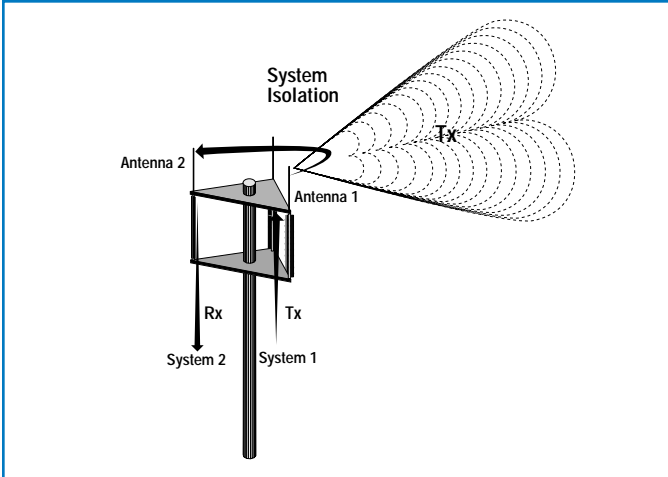

Figure 11. System Isolation
An example of adjacent PCS systems is shown in Figure 11. System 1 transmits signal in a specific direction, but some of the signal is received by antenna 2. Any excessive signal level from transmitter 1 will cause poor performance, loss of communication, and system degradation in the adjacent system. Antenna-to-Antenna isolation (more commonly known as the system isolation) is the difference between the output level transmitted by system 1 and the signal level received by system 2. The system isolation is equivalent to the reduction of signal level (attenuation) of Transmitter 1. Typical levels for isolation between systems can vary from 50 dB to 100 dB.
- Step 1. Disconnect the Tx (Transmit) antenna coax from System 1 in figure 11 and connect it to the RF Out port of the Site Master S251C. Disconnect the Rx (Receive) coax from System 2 in figure 11 and connect it to the RF In port of the Site Master S251C.
The measurement is swept across the entire frequency range that includes both transmit (1960-1990 MHz) and receive (1850-1910 MHz) bands. Markers M1 and M2 highlight the signal level measured in the receive band because this power level will affect the performance of the receiver of system 2 in figure 11 and identifies the signal level from an unwanted source (another transmitter).